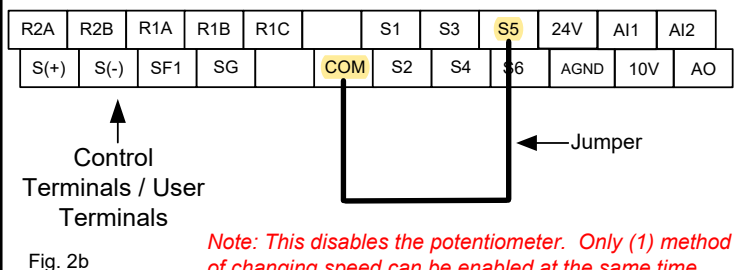

Fig. 2b
- Remove the protective covers (See E510 Manual) and install a jumper wire between COM and S5 as shown below in Fig. 2b.